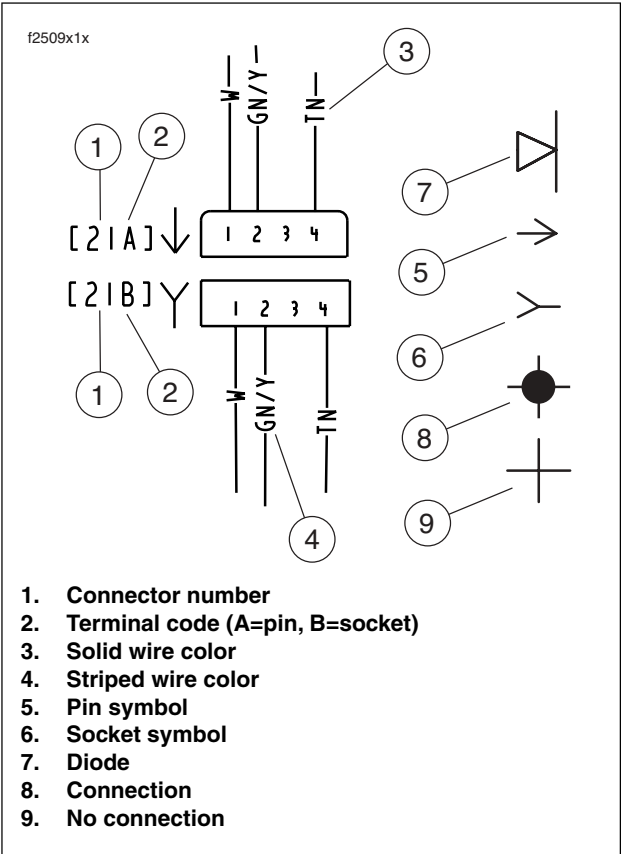

Figure B-17. Connector/Wiring Diagram Symbols (typical)
**For Solid Color Wires:** See Figure B-17. The alpha code identifies wire color (3).
**For Striped Wires:** The code is written with a slash (/) between the solid color code and the stripe code (4). For example, a trace labeled GN / Y is a green wire with a yellow stripe.
See Figure B-17. On wiring diagrams and in service/repair instructions, connectors are identified by a number in brackets (1). The letter (2) inside the brackets identifies whether the housing is a socket or pin housing.
**A=Pin:** The letter A after a connector number and/or the pin symbol (5) identifies a pin housing.
**B=Socket:** The letter B after a connector number and/or the socket symbol (6) identifies a socket housing.